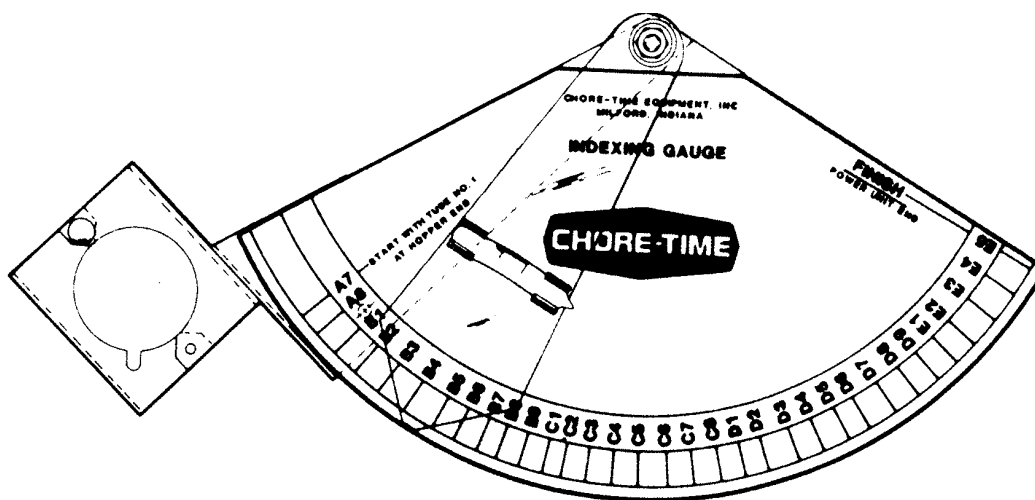

**Figure 36. Tube Clamp Location**
9. Continue to set each Auger Tube in the feeder line. After each tube is set, tighten the clamp on the bell end toward the hopper. The clamps should be positioned as shown in **Figure 36**. Do not crush the tubes by overtightening the clamps.
Position the clamps on the tube joints, as shown in **Figure 36**.